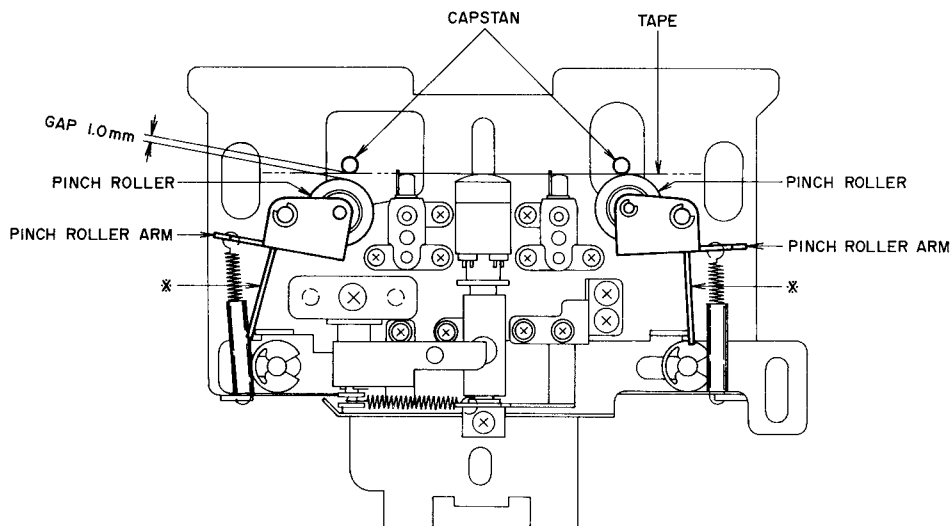

Fig. 8
4. PINCH ROLLER AND CAPSTAN GAP ADJUSTMENT (Refer to Fig. 8)